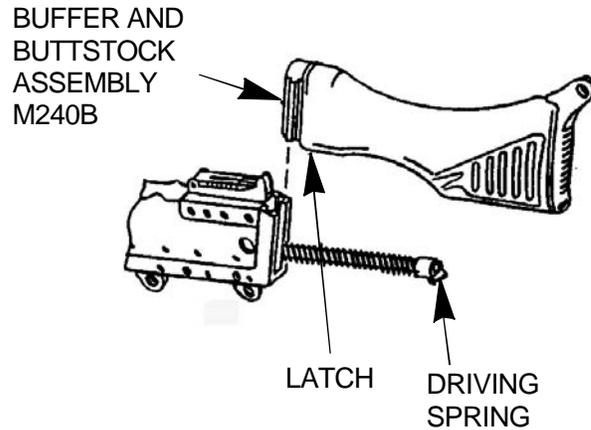
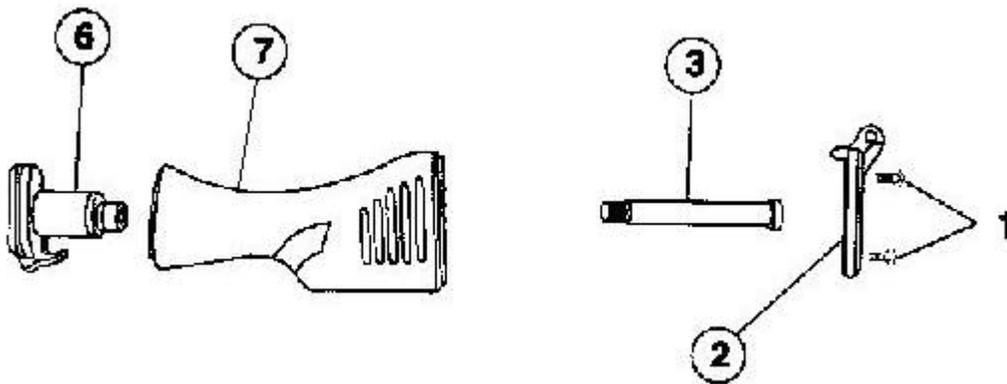

Figure 1
Figure 2
- a. **DISASSEMBLY:** Remove the following parts in accordance with subsequent instructions and Figure 1 and Figure 2: